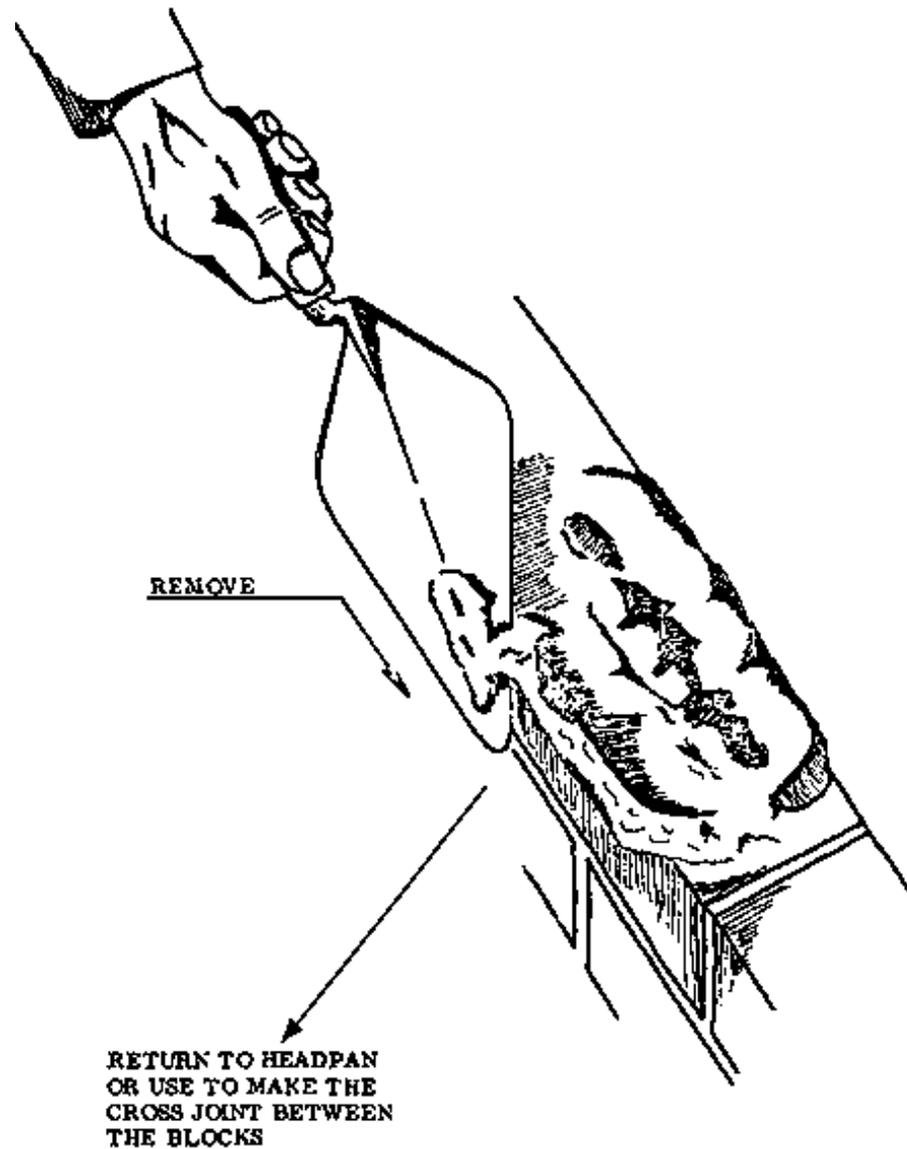

Fig. 1
**Before and after the block is layed, a certain amount of mortar will project from both sides of the wall. This must be removed before it drops down, as one of the most important principles of the Rural Builder is to work as economically as possible. This means saving materials. Fig. 1 shows the position of the trowel for these operations.**